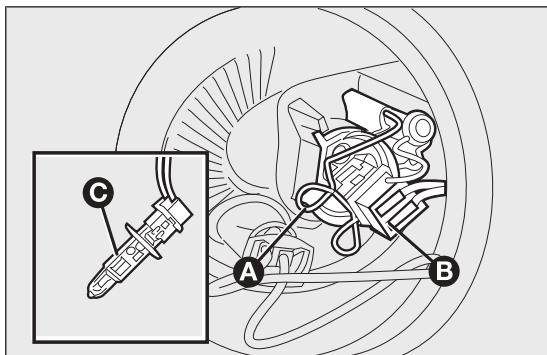

fig. 142
- release the bulb holding clip A fig. 142;